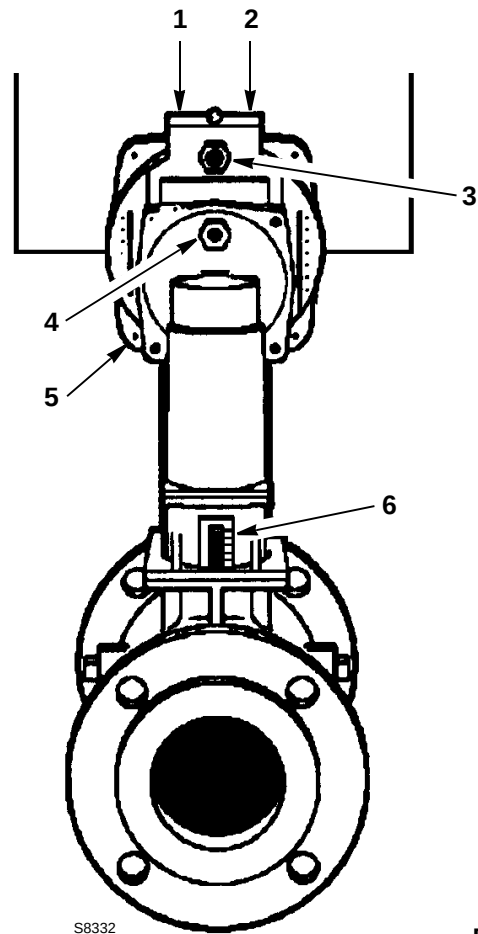

Fig. 31
- 1 Set the gas to air ratio to the desired value using adjusting screw 1 on the left (rough setting) and then set the working characteristic using adjusting screw 2)(Fig. 31) with the small flame symbol, moving it towards zero.
If necessary, correct the setting by adjusting screw 2)(Fig. 31) until optimum values are obtained.
- adjust the pressure ratio screw 1)(Fig. 31) at high fire operation only;
- adjust the bias screw 2)(Fig. 31) at low fire operation only.
Key (Fig. 31)